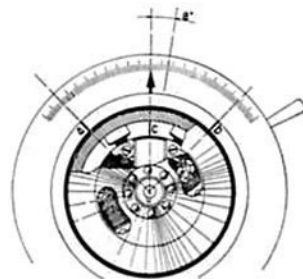

Fig. 83.
1. Draw a line from the shaft axis to one end of the ignition coil lamination and make a mark ("a", Fig. 83) where the line intersects the rotor bracket. Follow the same procedure for the other end of the lamination and mark point "b" accordingly.